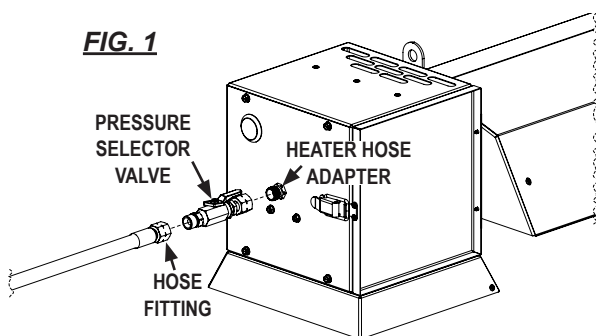

FIG. 2
- Figure 2 High Fire @ 5 PSIG gives 13,000 BTU